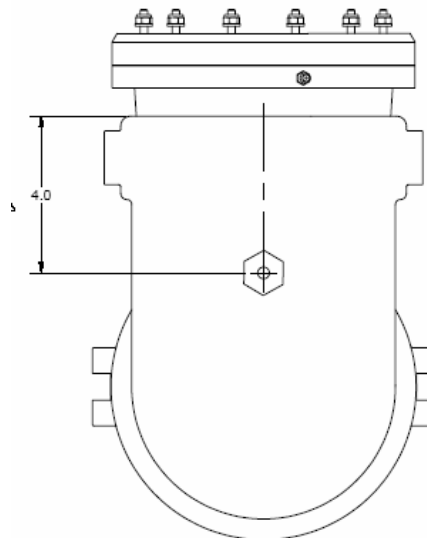

Figure 1
- 4) Make a mark on the Center Line of the elbow 4 inches in from the face of the elbow. See figure 1.